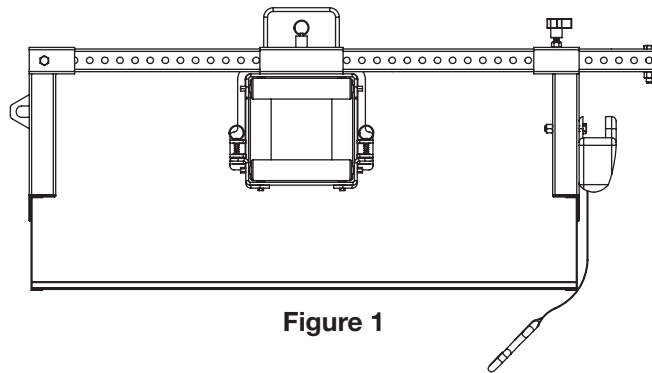

Figure 1
- Set the assembly on the cable tray where desired, as shown in Figure 1.